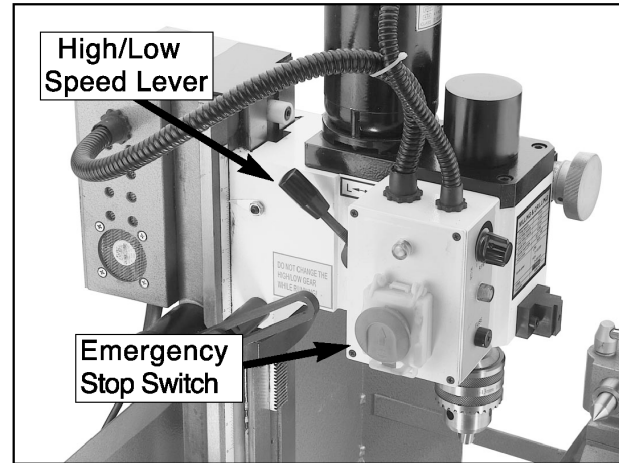

Figure 4. Mill / drill controls.
3. Familiarize yourself with the mill / drill controls shown in **Figure 4 and 5**.